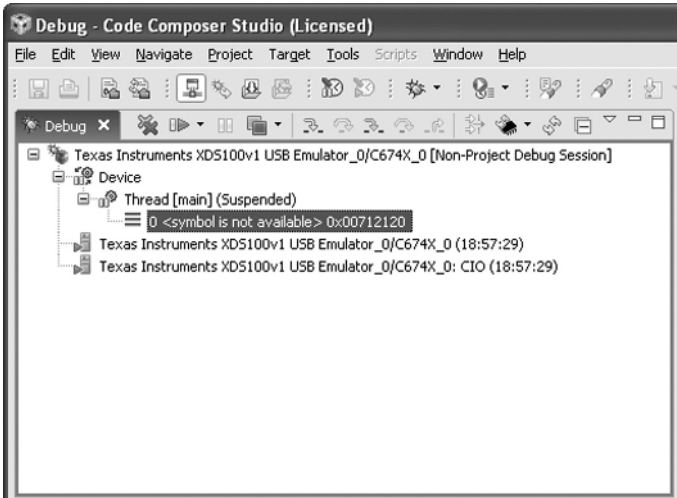
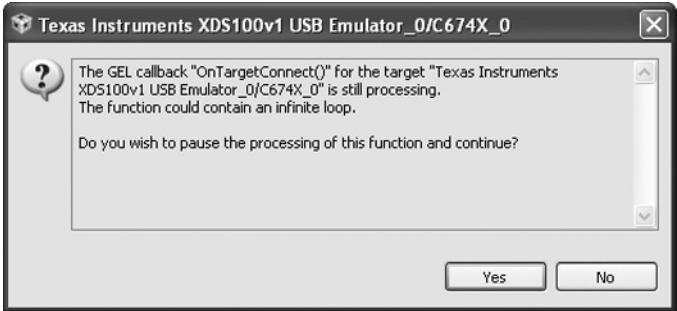

Figure 1.11 *Debug* view as it should appear in the *Debug* perspective after connecting to target (*Connect* icon highlighted).
Figure 1.12 Error message window.
- (13) Select *Target > Connect Target*. At this point, the GEL script `C6748.gel` specified by the target configuration file `L138_experimenter.ccxml` will be run and some diagnostic messages will appear in the console. Following this, the *Connect* icon in the toolbar should change from grayed out to highlighted, as shown in Figure 1.11. During this step, the error message window shown in Figure 1.12 may appear. If this happens, simply ignore it. It should disappear after a few seconds.